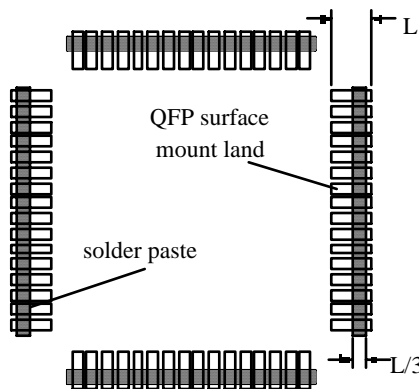

Fig. 1 Top view of land pattern with paste
- (b) Apply a continuous bead of paste to the target PCB pads as shown in Fig. 1. Cover approximately 1/3 of the pad between the center of the pad and the outer edge. Begin with this amount and add additional paste after reflow, if necessary (excessive paste on an initial trial will be difficult to remove).